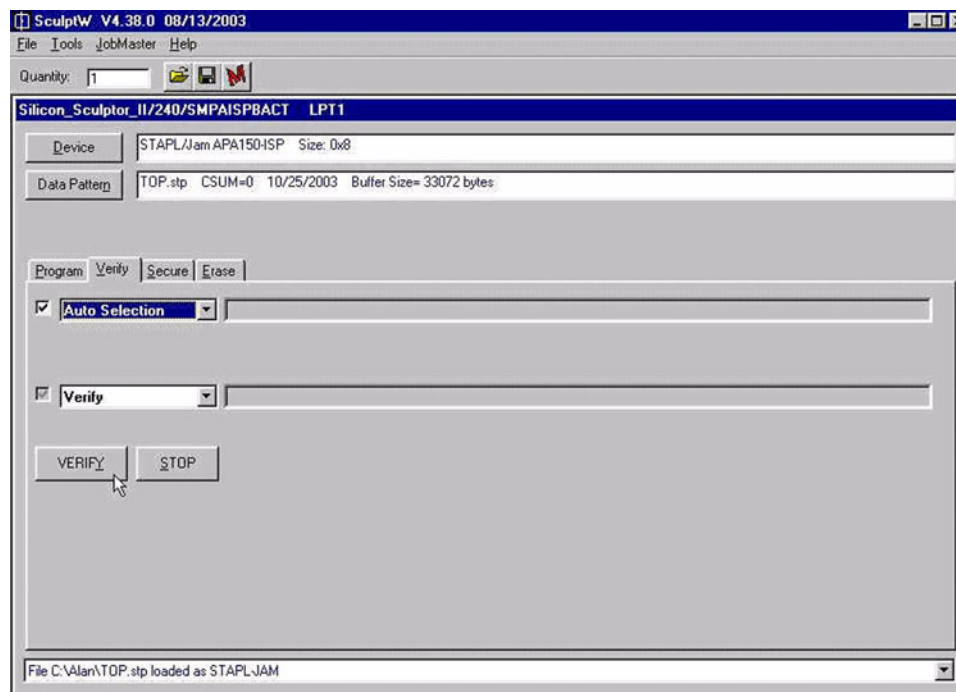

Figure 8 • Performing In-System Verification
3. Click the Verify Tab on the GUI and click VERIFY (Figure 8).